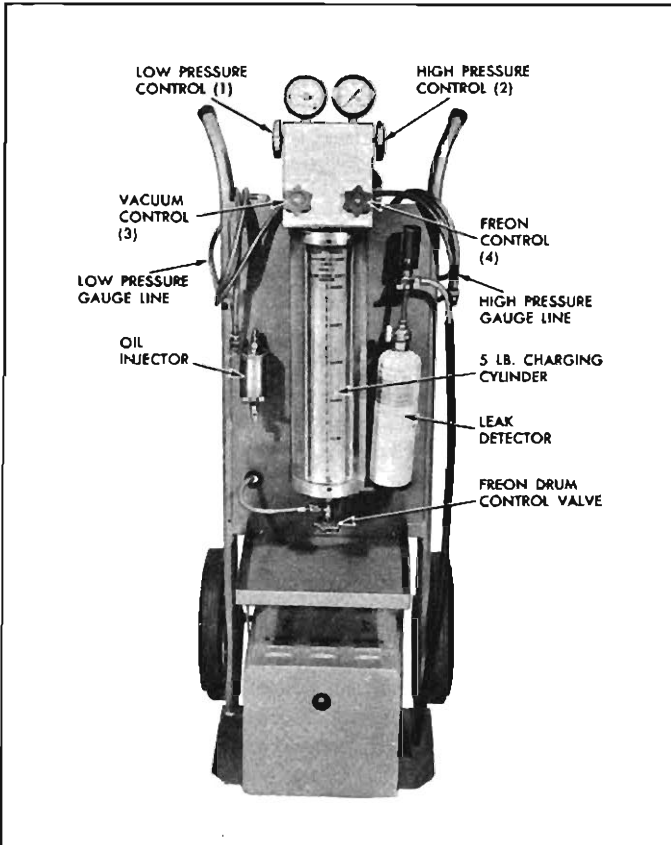

Fig. 11-21—J-8393 Freon Charging Station
The J-8393 Freon Charging Station (figs 11-21 and 11-22) is a portable assembly of a vacuum pump, Freon supply, gauges, valves, and most important, a five (5) pound metering Freon charging cylinder. The use of a charging cylinder eliminates the need for scales, hot water pails, etc.
All evacuation and charging equipment is hooked together in a compact portable unit (fig. 11-21) which nearly anyone can use to do an adequate job of servicing a car air conditioner. It brings air conditioning service down to the basic problem of hooking on two hoses, and manipulating clearly labelled valves.
3. See Figure 11-21. Turn high pressure control (2) one turn counter-clockwise (open). Crack open low pressure control (1) and allow Freon gas to hiss from low pressure gauge line for three seconds, then connect low pressure gauge line to low pressure gauge fitting on compressor.
1. Install charging station as previously described. Refer to Figure 11-21 while performing the following operation.